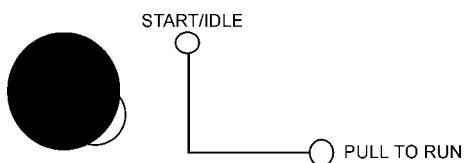

Figure 43. Engine Throttle Handle (Idle)
6. Make sure the engine throttle handle is pushed in (Figure 43).